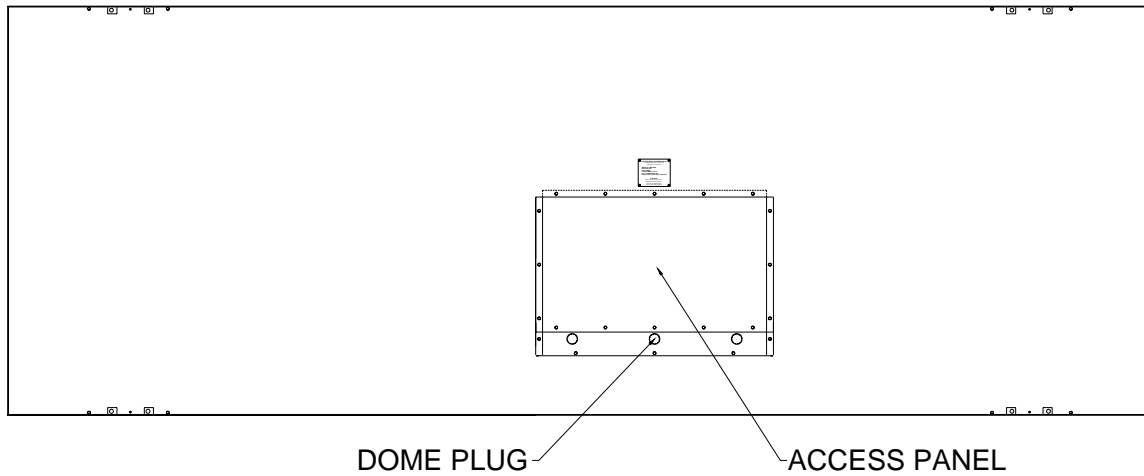

Figure 7 Rear Access Panel
3. Remove the rear access panel and the dome plugs on the plate below the access panel. Figure 7 shows the location of the access panel and the dome plugs.